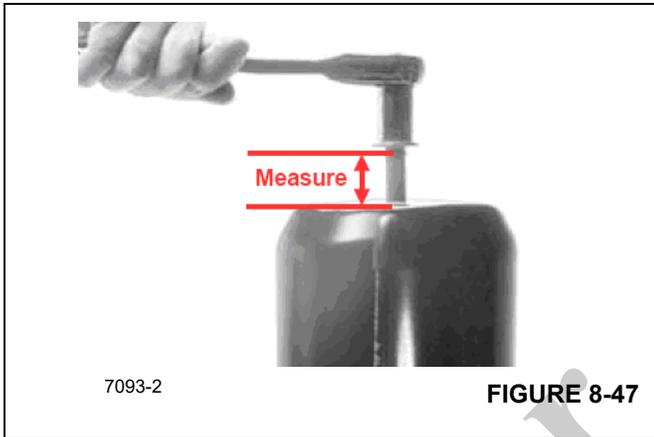

FIGURE 8-47
- The dual thread release bolt, which reduces the travel of the release bolt by a factor of 2.4 in a 76 mm (3.00 in) stroke unit, for instance, the parking spring is fully caged when the release bolt is up approximately 33 mm (1.3 in) from the run position (Figure 8-47). After caging, completely exhaust air from the spring chamber.